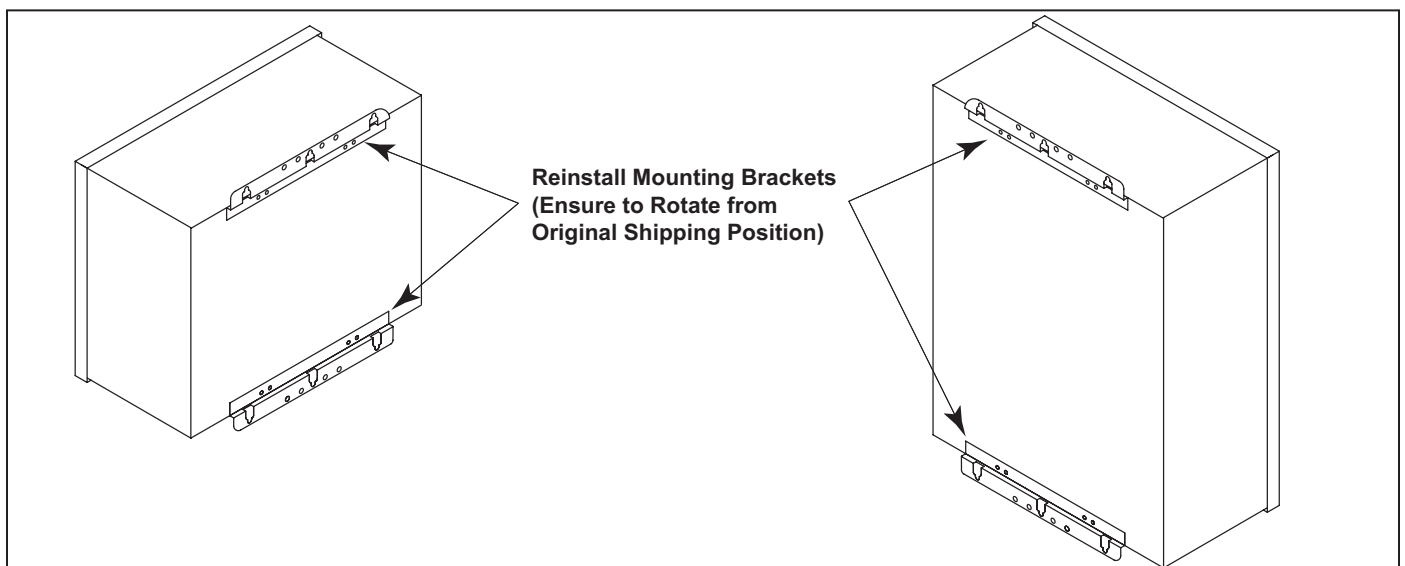

Figure 8. Reinstall Mounting Brackets on Control/Power Center
4. Reinstall the mounting brackets to the top and bottom of the back of the control/power center using the four (4) screws that were removed in *Step 2*. Ensure that the brackets are rotated from the original shipping position (see Figure 8).